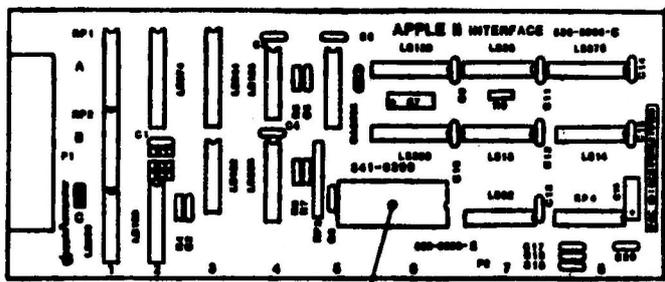

FIGURE 3
- IPL.5 ProFile Interface Card (Figure 3)
□ PROFILE INTERFACE CARD (Figure 3)